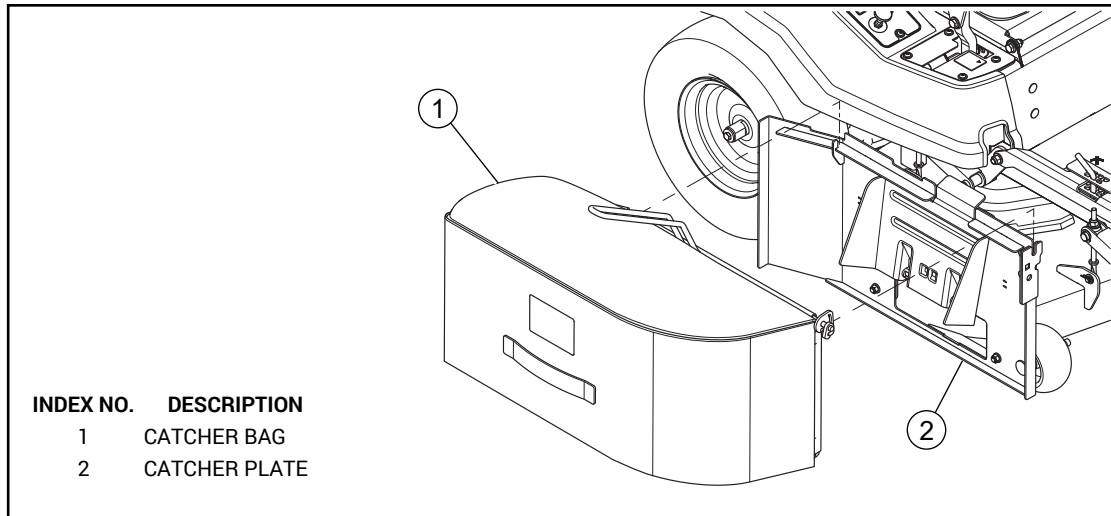

FIG. 2
2. Remove the catcher bag. Fig. 2